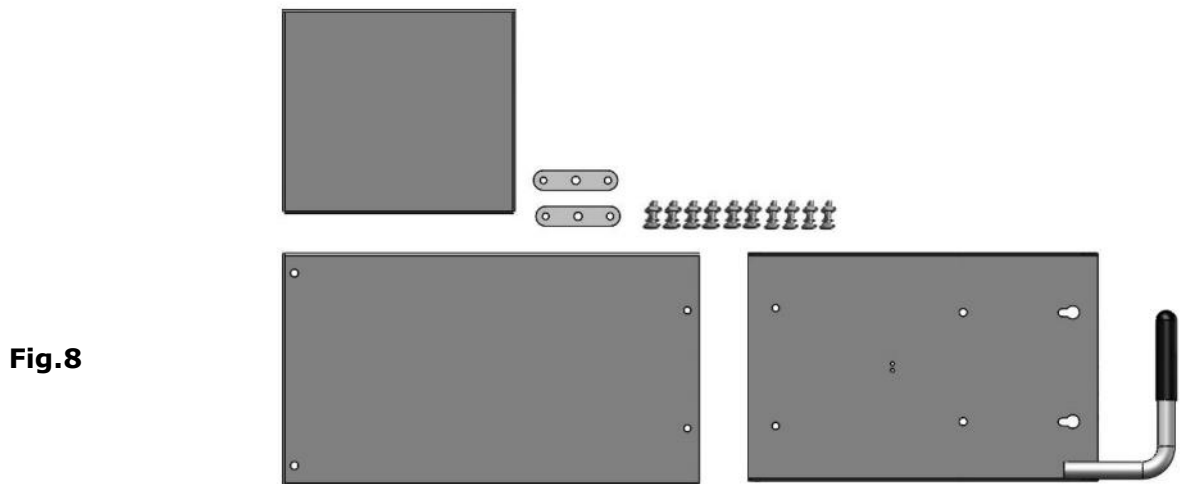

Fig.8
4. Open the carton and check the parts of power unit stand (See Fig. 8).